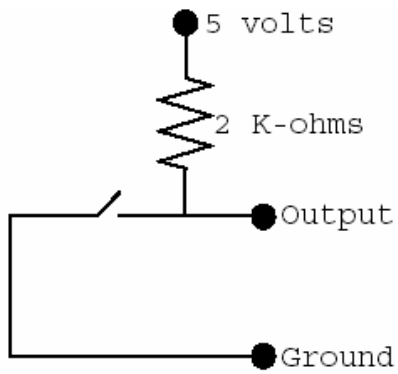

Figure 3.
- F-1. Connect the circuit of Figure 3 using first a push-button, normally-open switch and then a toggle switch. Connect the output of the circuit to both the vertical and external trigger input of an oscilloscope. Adjust the oscilloscope to trigger on the falling edge of the waveform. Observe the output waveform, estimating the time it takes for the waveform to stabilize (this takes a bit of patience since the sweep rate must be carefully adjusted so as to view the bounces). Repeat a number of times for each switch.
- F-2. Now obtain an actual count of the number of bounces observed in F-1 above by connecting the output of the circuit in Figure 3 to a cascade of 7493 binary counters (whatever is needed to get an accurate count). Cycle the switches several times making sure the counters are reset before each cycle.
- F-3. Connect a capacitor from the output of the circuit in Figure 3 to ground. Again cycle the switches increasing the value of the capacitance if necessary until no bouncing is observed. Note the value of the capacitor and also sketch the output waveform.